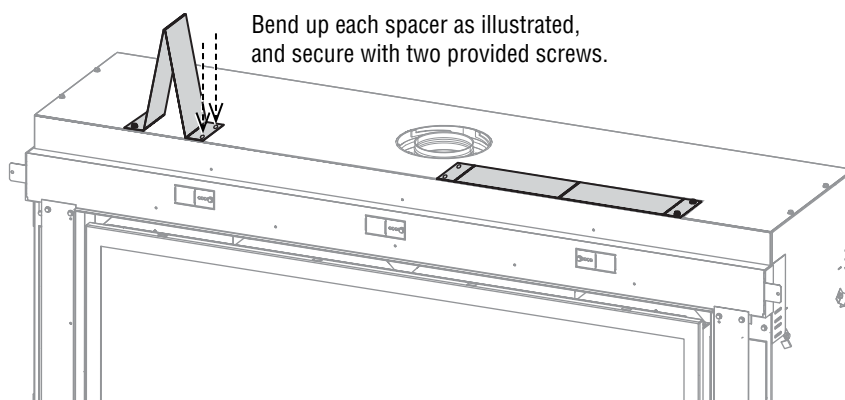

Figure 4
1. Assemble the top spacers (**Figure 4**).
Assemble **TOP SPACERS** before installing fireplace (*Figure 4*).